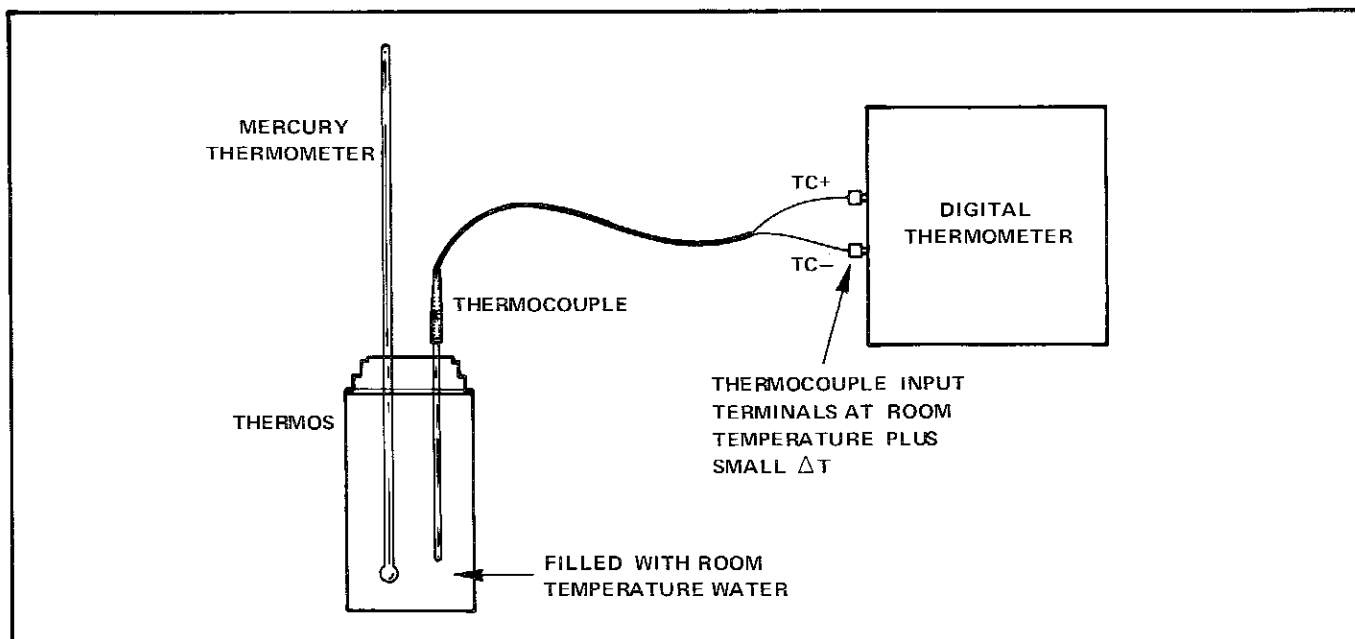

Figure 4-3. Room Temperature Lag Bath
- h. Place the thermocouple in a room-temperature lag bath. (See Figure 4-3 for an illustration of lag-bath construction. Two holes should be drilled in the thermos lid to provide a snug fit for the mercury thermometer and thermocouple probe.)
- b. Place the thermocouple in a room-temperature lag bath. (See Figure 4-3 for an illustration of lag-bath construction.)